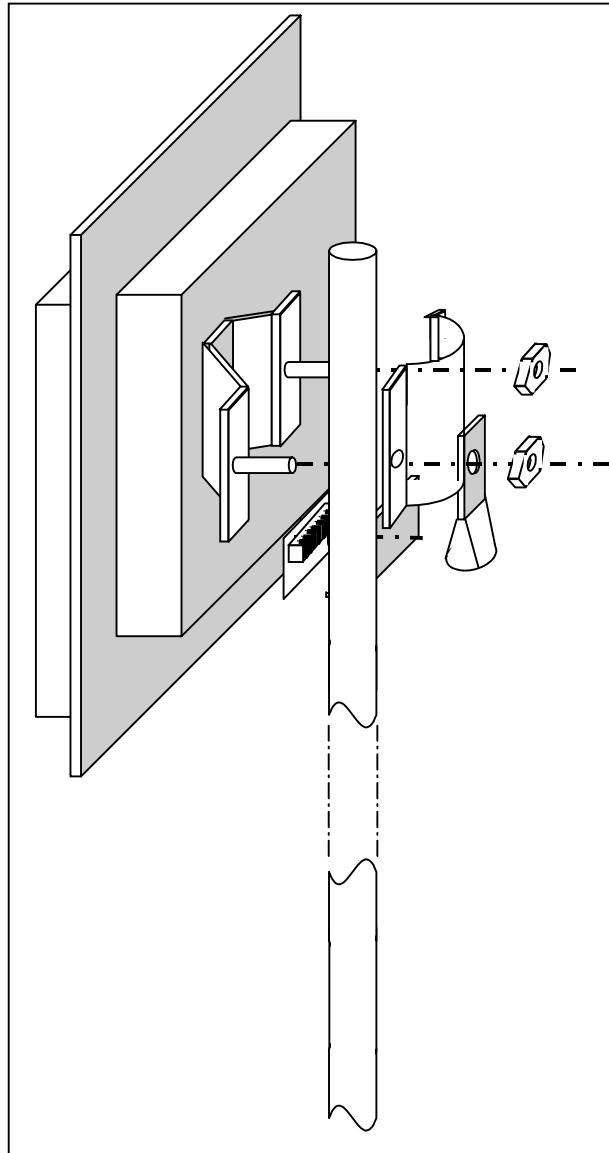

Figure 4. CPE outdoor installation
2. Affix the antenna to the pole using the enclosed bracket and screws, as shown in Figure4, page12.
1. Attach the ground cable to the Outdoor Unit as shown in Figure 4.